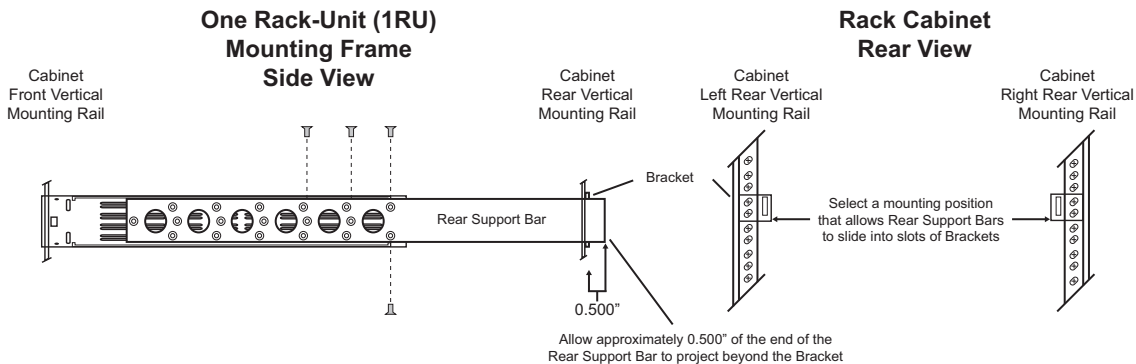

Figure 5 Installing the Support Brackets
In some cases, (mobile trucks, etc.) it may be desirable to also support the rear of the ACO-2200. The rear support bars can be attached to the ACO-2200 in six possible positions. (**Figure 5**)
2. Using four screws per bracket, as shown in **Figure 5**, attach both bars.